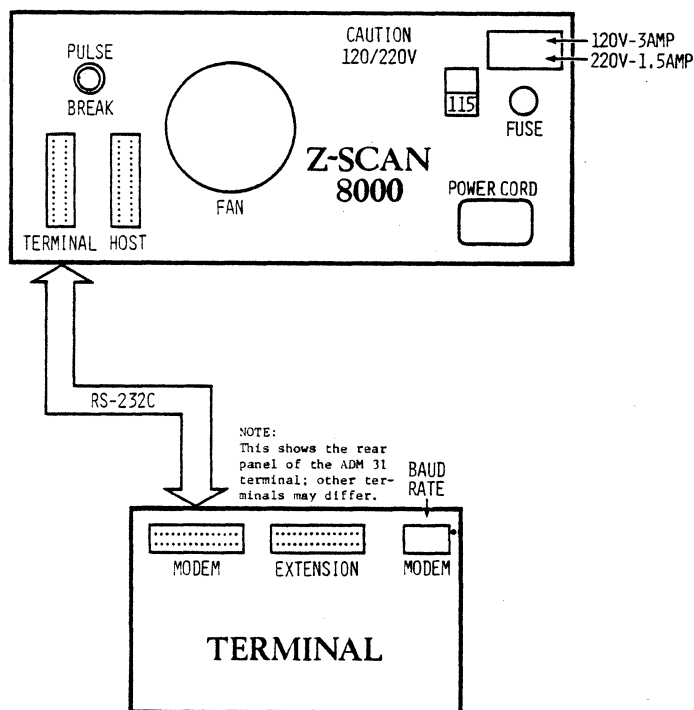

Figure 3-5. Z-SCAN Unit and Terminal Connections (Stand-Alone Configuration)
2. Connect one end of the terminal cable to the Z-SCAN rear panel RS-232 connector labeled "terminal." Figure 3-5 illustrates the connecting areas for the CRT terminal and Z-SCAN 8000 (stand-alone configuration).